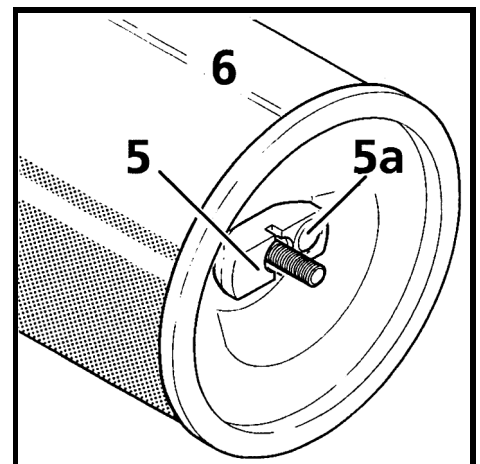

Fig. 34
The safety elements 6 are installed with a special wing nut with built in maintenance indicator (Fig. 34, pos.5).